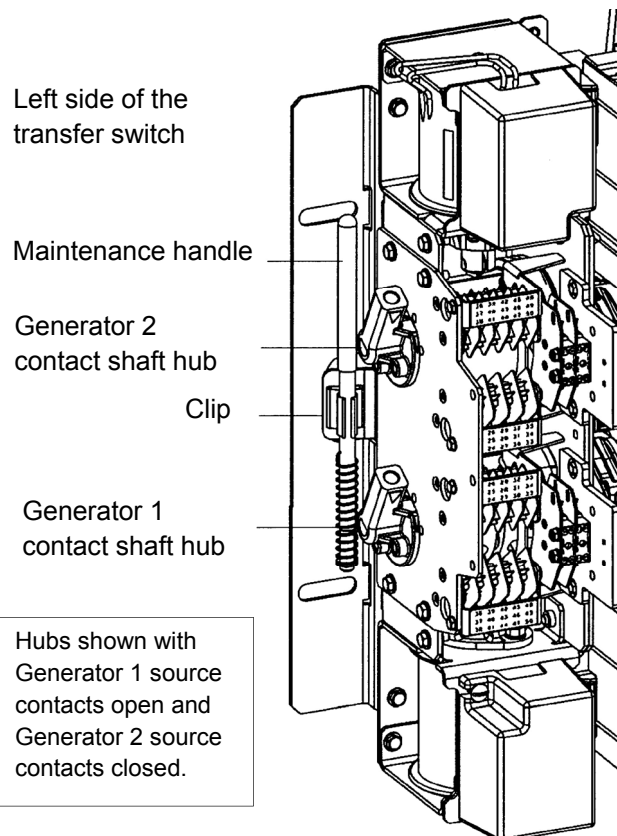
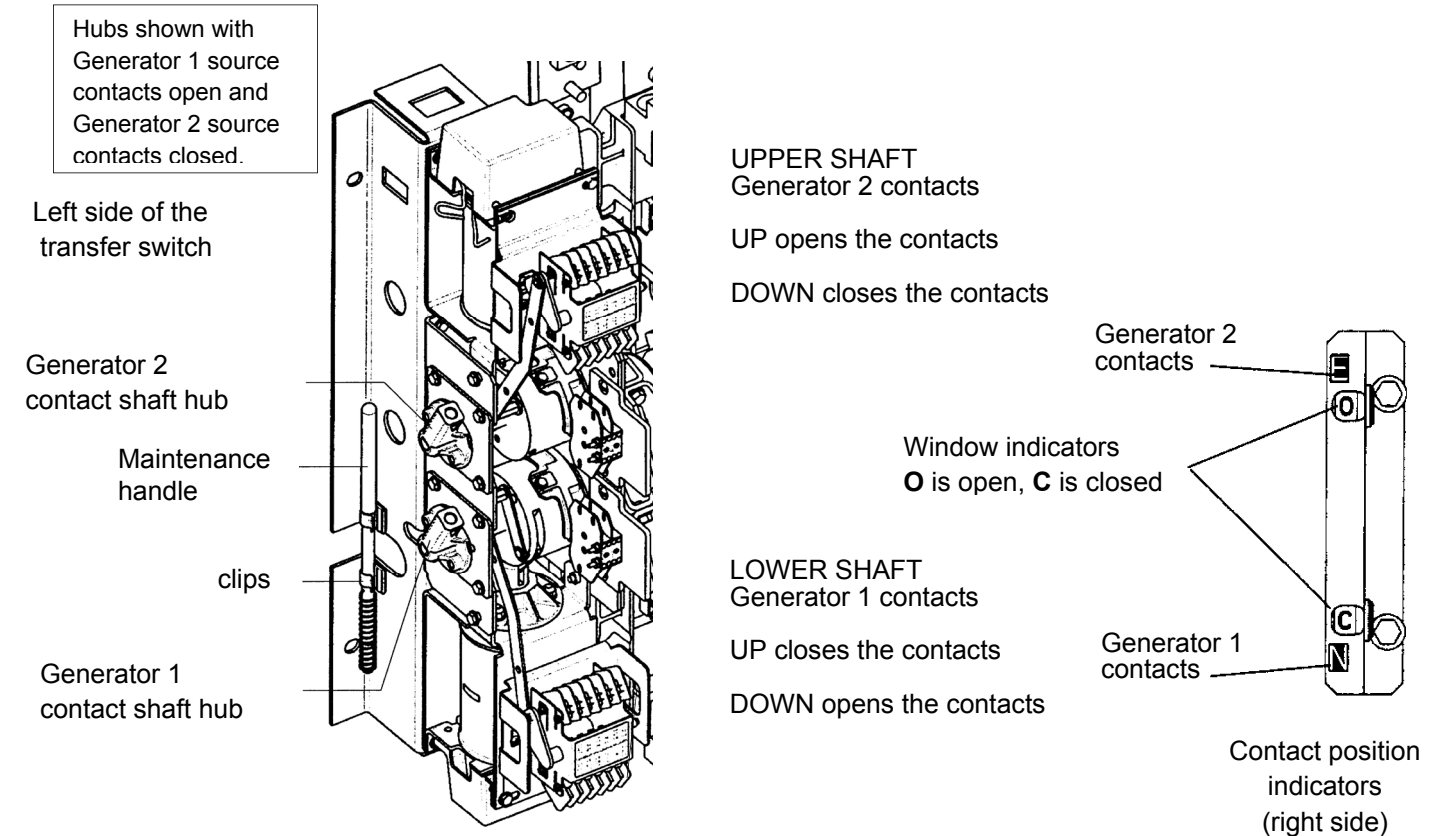

Figure 3a. J-design Transfer Switch Maintenance Handle Operation.
Figure 3b. H-design Transfer Switch Maintenance Handle Operation.
1. After de-energizing both power sources, open the enclosure door. Locate and remove the maintenance handle. Select J-design, H-design or G-design. See Figures 3a, 3b and 3c.
J-design (Figure 3a) and H-design (Figure 3b)